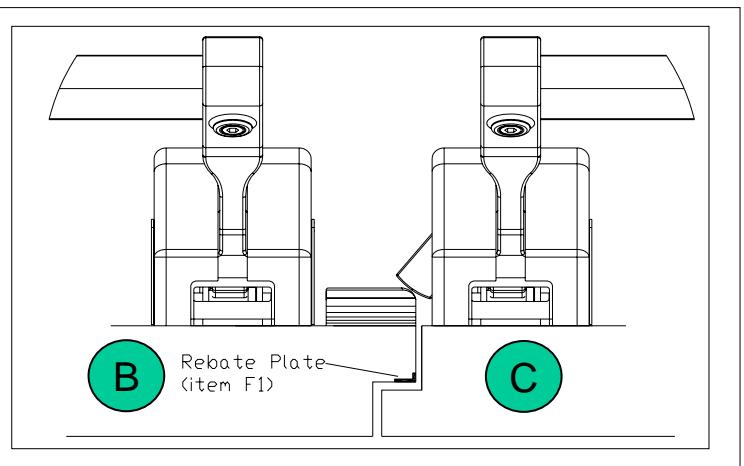

Fig 3.1
- 6.1) Referring to Fig 3.1, with the door closed, position the relevant striker. For double door striker, use packers as necessary to obtain a close fit between Latch and Striker. The door should not rattle nor need to be pushed to lock the latch.